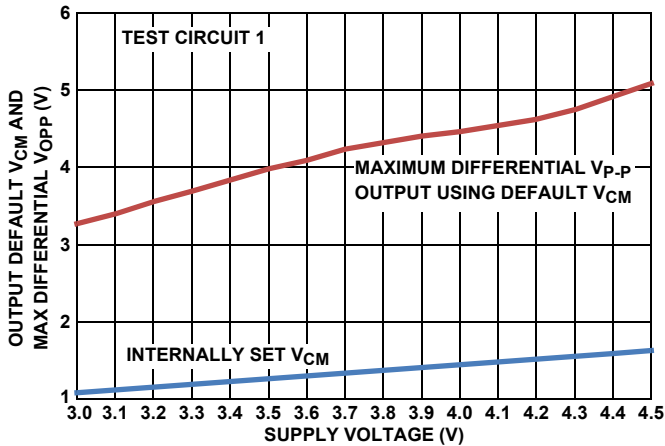
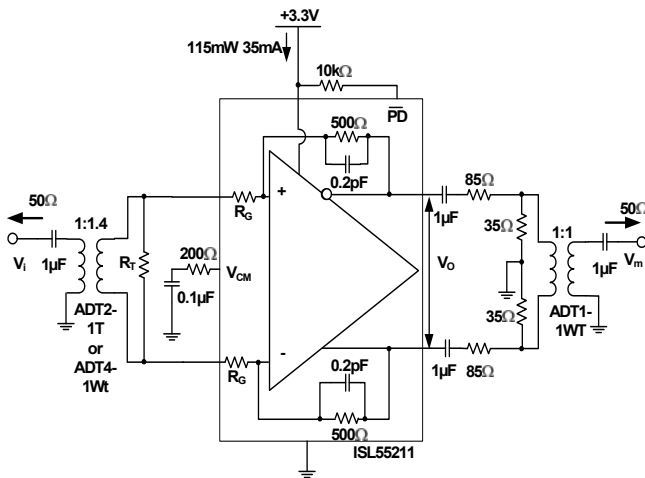
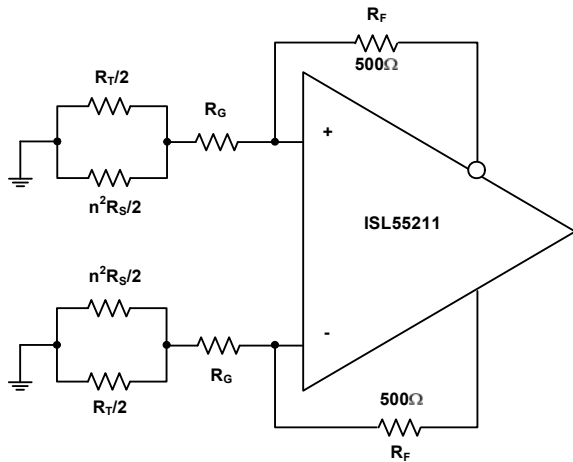

FIGURE 27. DEFAULT  $V_{CM}$  AND MAX  $V_{OPP}$  vs SUPPLY VOLTAGE
FIGURE 29. TEST CIRCUIT 1
FIGURE 35. NOISE GAIN MODEL FOR THE TRANSFORMER COUPLED INPUT CIRCUIT OF FIGURE 29
Test Circuit 1 of Figure 29 forms a starting point for many of the characterization curves for the ISL55211. Since most lab sources and measurement devices are single-ended, this circuit converts to differential at the input through a wideband transformer and would also be a typical application circuit coming from a single-ended source. Assuming the source is a 50 $\Omega$  impedance, the internal  $R_G$  resistors and external  $R_T$  are set to provide both the input termination and the gain. Since the inverting summing nodes act as virtual ground points for AC signal analysis, the total termination impedance across the input transformer secondary will be  $(2 * R_G) || R_T$ . Setting this equal to  $n^2 * R_S$  will give a matched input impedance inside the bandwidth of the transformer (where "n" is the turns ratio). The amplifier gain is fixed by the selected input  $R_G$  element and the internal 500 $\Omega$  feedback resistors. While the ISL55211 is internally a Voltage Feedback Design (VFA) to give the lowest possible noise, internal compensation caps hold the bandwidth over gain setting approximately constant at 1.4GHz. For wider small signal bandwidth at lower gains, consider the ISL55210, which provides >2.2GHz at a gain of 12dB.
Working with a transformer coupled input as shown in Figure 29, or with two DC blocking caps from a differential source, means the output common mode voltage set by either the default internal  $V_{CM}$  setting, or a voltage applied to the  $V_{CM}$  control pin, will also appear as the input common mode voltage. This provides a very easy way to control the ISL55211 I/O common mode operating voltages for an AC-coupled signal path. The internal common mode loop holds the output pins to  $V_{CM}$  and, since there is no DC path for an  $I_{CM}$  current back towards the input in Figure 29, that  $V_{CM}$  setting will also appear as the input common mode voltage. It is useful, for this reason, to leave any input transformer secondary centertap unconnected. The internally set  $V_{CM}$  voltage is referenced from the negative supply pin. With a single 3.3V supply, it is very close to 1.2V but will change with total supply voltage across the device as shown in Figure 27.
Most of the characterization curves starting with Figure 29 then get different gains by changing the connections to the two pairs of input  $R_G$  connections, as shown on the pin configuration drawing on page 2. Two input turns ratios are intended for Test Circuit 1; either a 1:1.4 turns ratio (ohms ratio of 2) or a 1:2 turns ratio (ohm ratio of 4). The specific transformers shown in Figure 29 are representative of broadband RF transformers but alternate devices and manufacturers of these turns ratio devices are certainly applicable. The output side of this test circuit presents a differential 200Ω load while converting the differential to single-ended through a resistive attenuator and a 1:1 transformer. This inserts approximately a 17dB insertion loss that is removed to report the characteristic curves. For load tests below the 200Ω shown in Figure 29, a simple added shunt resistor is placed across the output pins. For loads > 200Ω, the series and shunt load R's are adjusted to show that total load (including the 50Ω measurement load reflected through the 1:1 output measurement port transformer) and provide an apparent 50Ω differential source to that transformer. This output side transformer is for measurement purposes only and is not necessary for final applications circuits. There are output interface designs that do benefit from a transformer as part of the signal path as shown in Figure 1. In that case, the 1:1.4 output side transformer becomes part of a filter design and recovers the filter insertion loss from the amplifier output pins to the ADC inputs.
The characterization circuit of Figure 29 shows one possible input stage interface that offers several advantages. Where AC coupling is adequate, the circuit of Figure 29 simplifies the input common mode voltage control. If the source coming into this stage is single-ended, the input transformer provides a zero power conversion to differential. The two gain resistors ( $R_G$  in Figure 29) provide both a portion of the input termination impedance and the gain element for the amplifier. For 50Ω systems, these  $R_G$  resistors are too high with the turns ratios shown in Figure 29 to provide the full match and an external  $R_T$  resistor is required. This  $R_T$  element goes away at the highest gain setting using a 1:2 input turns ratio transformer.
This input interface also simplifies the input common mode control. The  $V_{CM}$  pin controls the output common mode voltage. In most DC-coupled FDA applications, the input common mode voltage is determined by both this output common mode and the source signal. In a configuration like Figure 29, there is no path for a common mode current to flow from output to input, so the input common mode voltage equals the output. A similar effect could be achieved with just two blocking caps on the two  $R_G$  resistors. A DC-coupled, single to differential, configuration will also have a common mode input that is moving with the input signal. Converting to just a differential signal at the amplifier, as in Figure 29, removes any input signal related artifacts from the input common mode making the ISL55211 behave as a differential only VFA amplifier. There is only a very small differential error signal at the inputs set by the loop gain, as in a
of 1.3V for instance, then  $1.3V + 0.9V + 1.5V = 3.7V$  will give an unclipped  $3.6V_{P,P}$  output capability. The  $V_{P,P}$  reported in Figure 27 is an asymmetrically clipped maximum swing. Going 10% above this 3.7V target to 4.1V will be within the recommended operating range and give some tolerancing headroom that would also suggest the  $V_{CM}$  voltage be moved up to approximately 1.5V, which coincides with the default output  $V_{CM}$  from Figure 27. Operating at +4.1V single supply in a Figure 29 type configuration will give the maximum linear differential output swing of  $3.6V_{P,P}$ .
The differential inputs internal to the ISL55211 also have operating range limits relative to the supply voltages. Operating in an AC-coupled circuit like Figure 29 will produce an input common mode voltage equal to the outputs. The inputs can operate with full linearity with this  $V_{CM}$  voltage down to 1.1V above the  $-V_S$  supply. On the default 1.2V output  $V_{CM}$  on +3.3V supplies this gives a 100mV guardband on the input  $V_{CM}$  voltages. Overriding the default  $V_{CM}$  by applying a control voltage to the  $V_{CM}$  pin should be done with care in going towards the negative supply due to this limit. On the + side, the maximum input  $V_{CM}$  above the  $-V_S$  supply is 2V so there is more room to move the output  $V_{CM}$  up than down from the default value.
+85°C maximum operating ambient from Figure 27, we get  $4.5V \times 45mA \times 120^\circ C/W = +24^\circ C$  rise above +85°C or approximately +109°C operating  $T_j$  maximum - still well below the specified Absolute Maximum operating junction temperature of +135°C.
Adding an input transformer can improve the input referred noise by adding a noiseless voltage gain. Starting from Test Circuit 1 of Figure 29, and assuming the source shows a matched broadband source  $R_S$  that will be matched by the input referred parallel combination of  $2 * R_G || R_T$ , a noise gain analysis circuit can be developed as shown in Figure 35.
Stepping through the 3 gain settings with two input transformers will allow the noise gain to be calculated for the circuit of Figure 35, which is all that is needed in Equation 1 to arrive at an output differential noise (since  $R_F$  is fixed at 500 $\Omega$ ). Doing this gives Table 4.
2. AC-coupled, higher frequency range interstage filter design. This design replaces the  $R_T$  resistors in Figure 35 with large valued inductors and implements the filter just using shunt resistors at the end of the RLC filter. In this case, the ADC  $V_{CM}$  can be tied to the centerpoint of the bias path inductors (very much like a Bias-T) to provide the common mode voltage and current to the ADC inputs. These bias inductors do limit the low frequency end of the operation where, with  $1\mu\text{H}$  values, operation from 10MHz to 200MHz is supported using the approach of Figure 37.